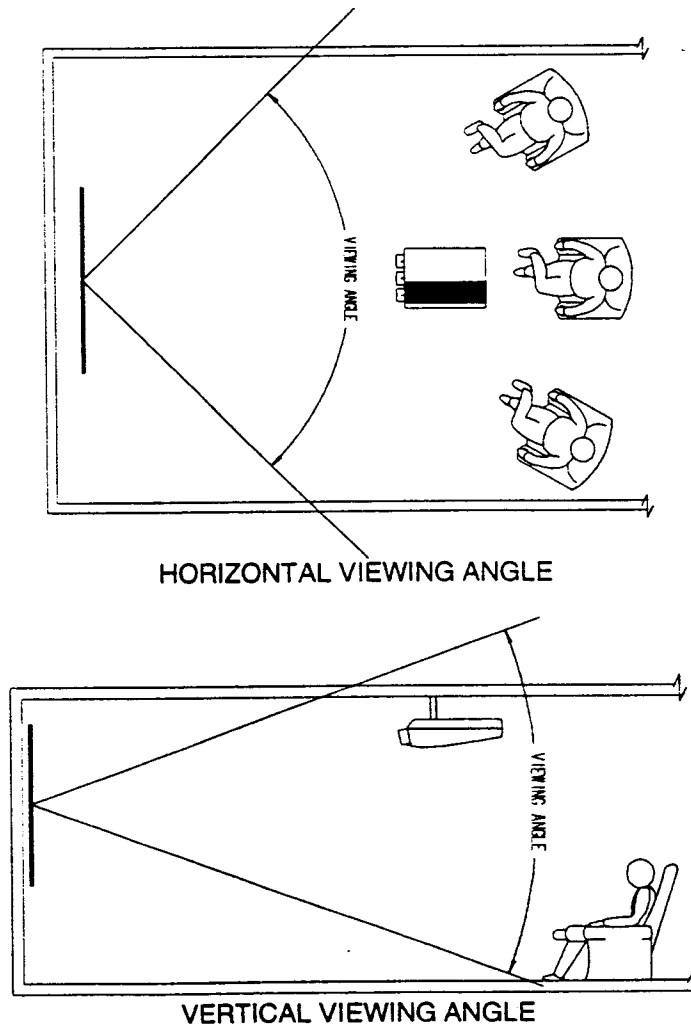

FIGURE 4-4.
4.4.2 Front Screens: (Figure 4-4)